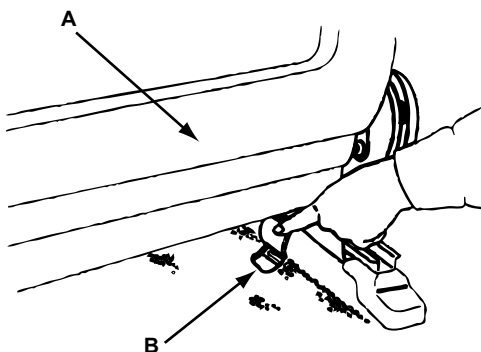

Figure 15-49 1990-92 Legacy and 1992-97 SVX ABS LED location
- 1990–1992 Legacy/Outback, Sedan and Wagon (Figure 15-49 on page 215)
- 1992–1997 SVX (Figure 15-49 on page 215)
5. The LED is located under the right-front seat (Figure 15-49). See “Subaru Code Type 08 (Straight Count)” on page 204 for reading codes from the flashing LED.